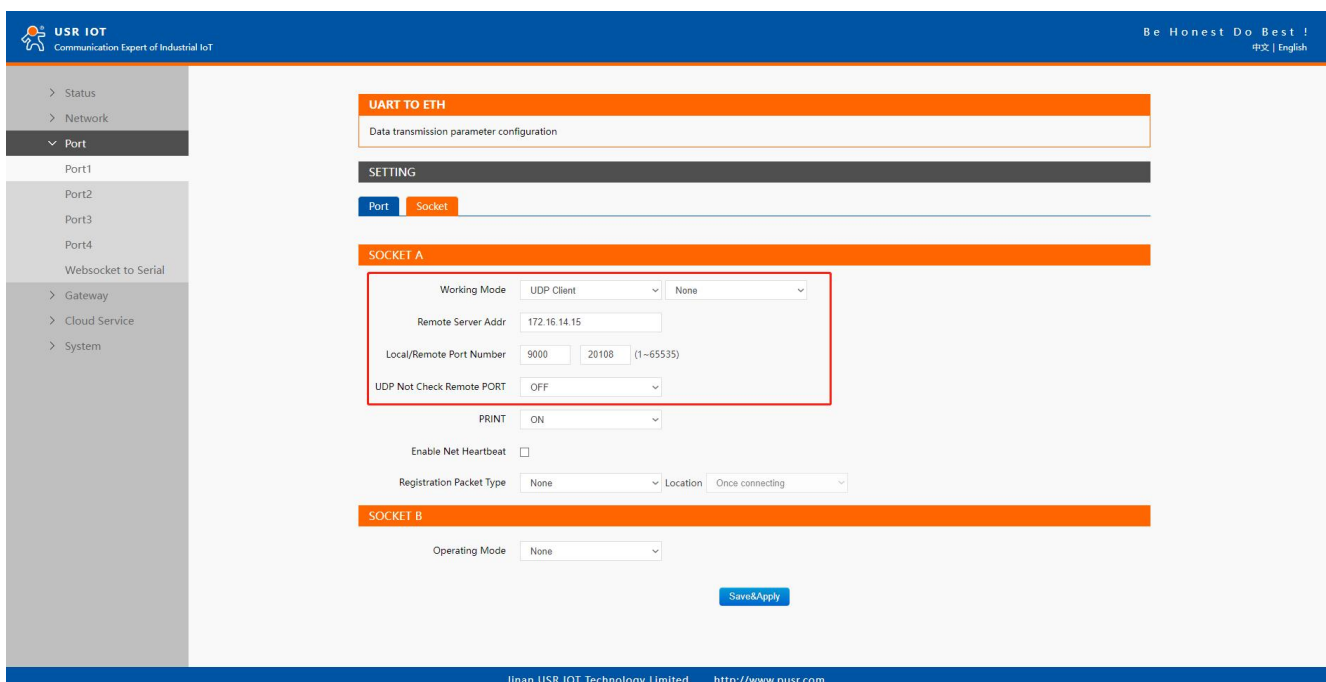

Fig. 55 UDP client work mode
When the working mode of the device is UDP client, the remote device must also work in UDP mode. N5X0 supports remote IP address and port verification. After verification is enabled(OFF), the N5X0 only communicates with the destination port of the destination IP address. If the data is not from this channel, the N5X0 will discard the data. If verification is disabled(ON), N5X0 does not filter the data of the destination IP address and destination port. Fig.55 shows an example of configuration setting for UDP Client mode under the Port1 socket page. You can configure other serial ports in the same way.
1. Click on the "Port1" tab on the menu frame on the left side of Web UI to go to Port1 page as shown in Fig.55.